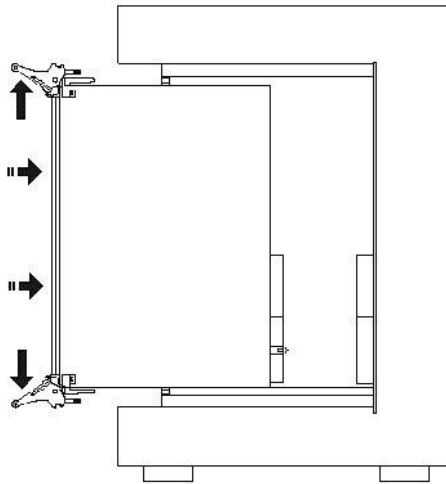

Figure 3-3: Ejector handle position during module insertion
6. After you feel resistance, push in the ejector handles as shown in Figure 3-3 to secure the module into the frame.